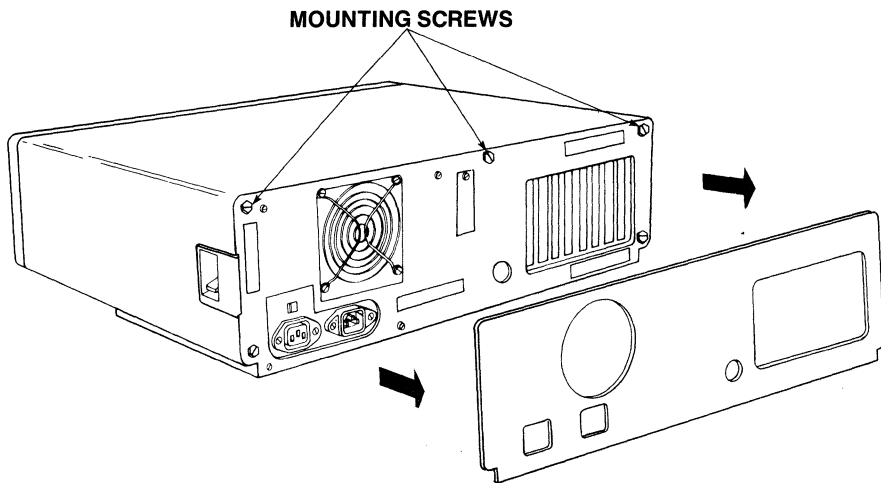

Figure C-1 Removing the PC/AT Back Panel
5. For the PC/AT only: Remove the back panel as shown in Figure C-1. Note that plastic fastener strips are used to attach the panel to the PC/AT.